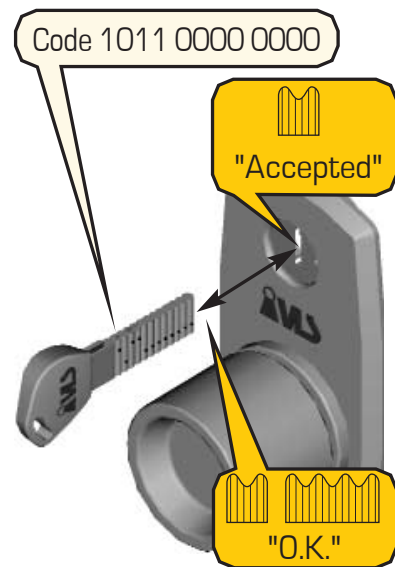

Figure 30 –
**2.** In order to unblock the operation code No. 2, set the unblocking code 1011 0000 0000 on the key (fig. 30).